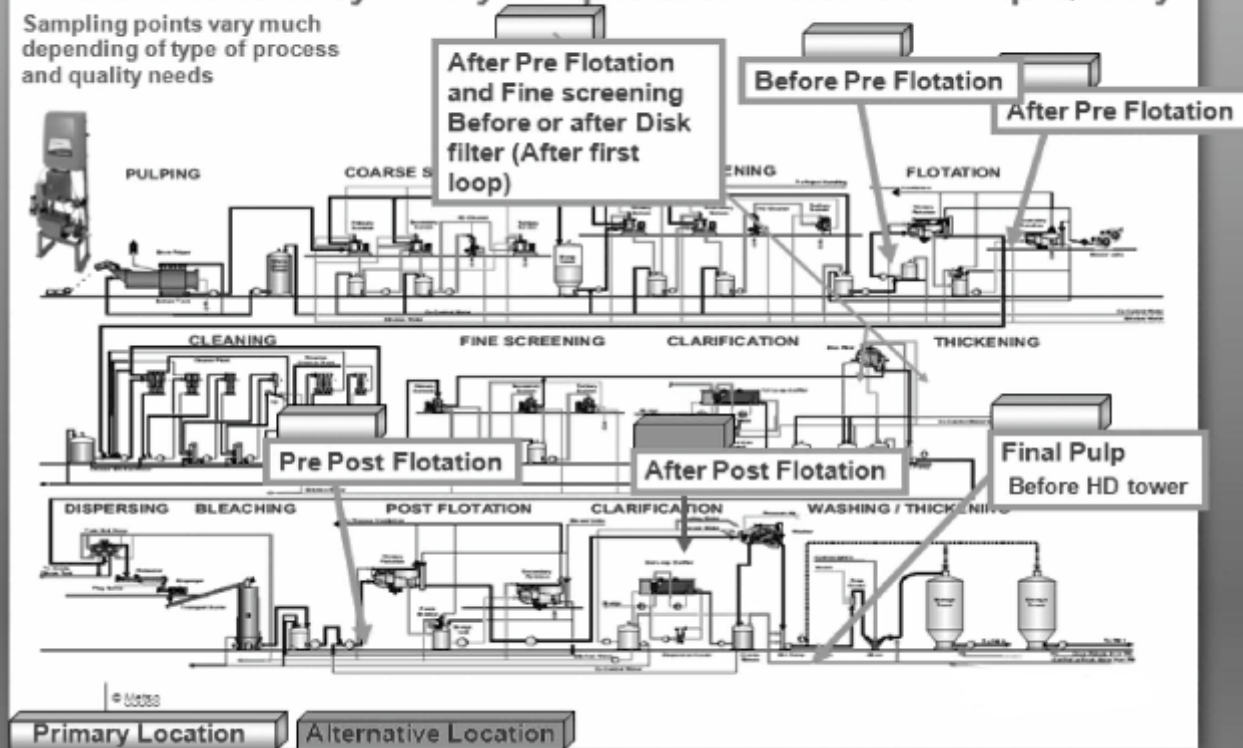

Figure 3- Measuring Ash consistency
- We can measure Ash content at various locations viz. floatation cells and help minimizing Ash variations in the process (Refer Figure 3)